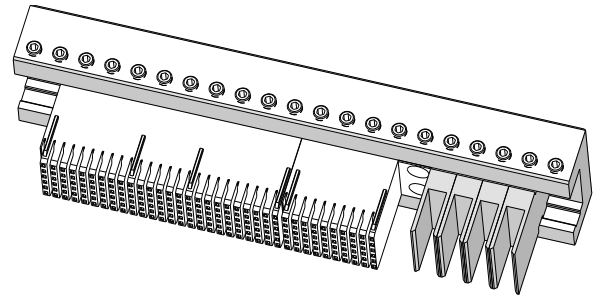

Figure 4-1
All the insertion tooling listed in Table 4-1 and 4-2 can be stacked in any combination to be able to simultaneously press in any arrangement of stacked connectors. Tooling holders are available in various lengths. Figure 4-1 shows a typical setup for a 6 by 25 signal module, a 6 by 10 signal module, and four (4) 6-row power modules.